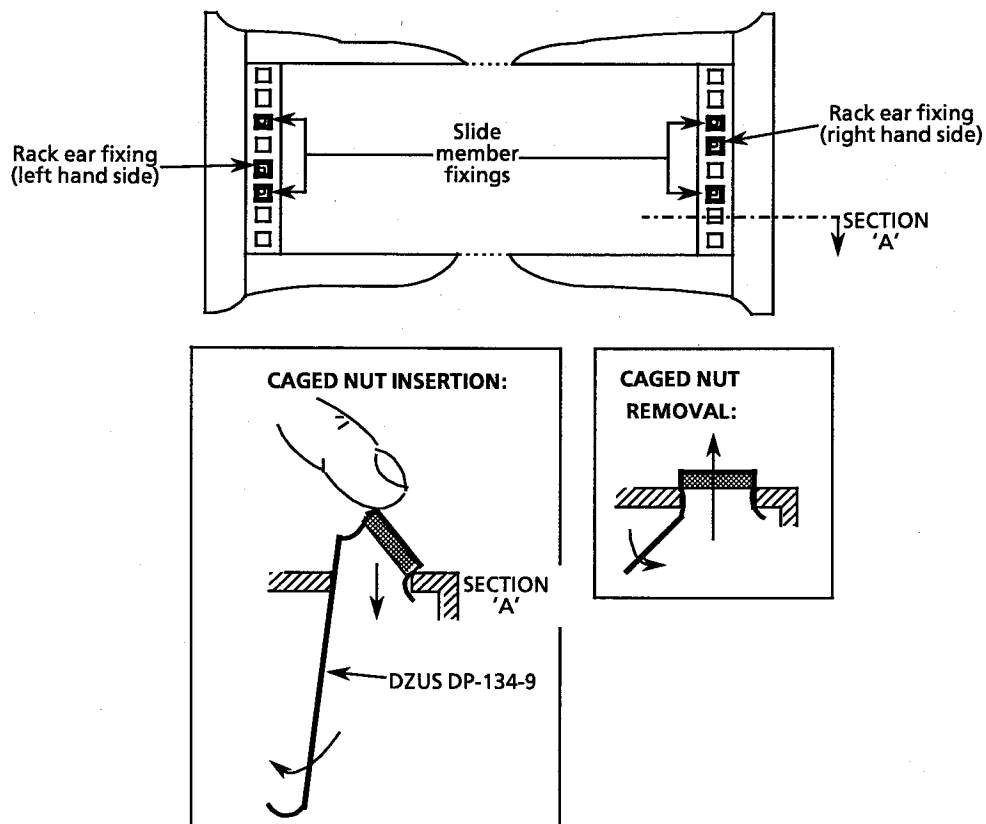

Fig. 2.10 *Caged nut insertion in Imrak Series 80 (and similar) cabinets*
- 6.4.4** Fit the M6 caged nuts for outer slide member, rack slide member, and rack ear fixing into the rack, in the positions shown in Fig. 2.10. How to insert and remove caged nuts is shown in the figure detail.